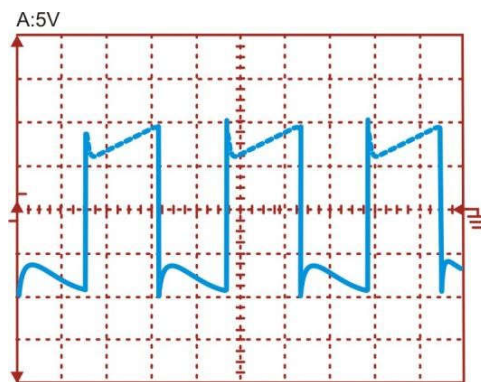

Figure 17
3. Apply square wave to the set point (SP).
4. Check the output of summer block  $\Sigma$  of summing block on CRO that will look like as shown in figure 17.